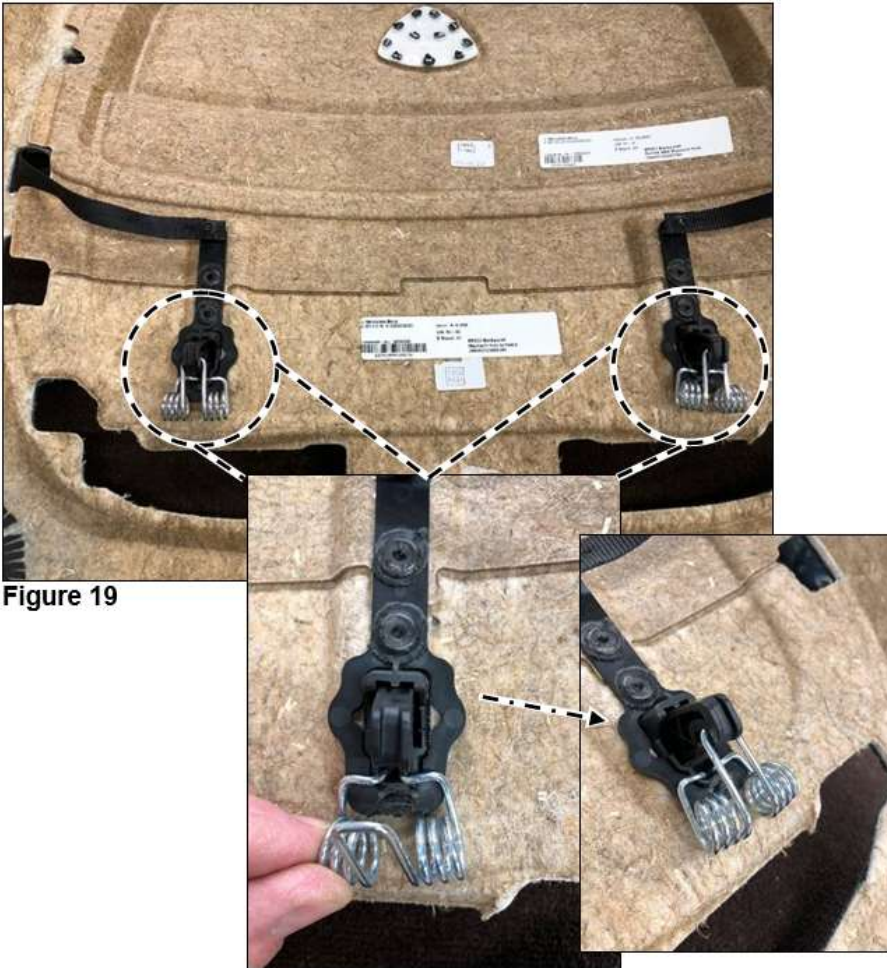

Figure 19
10.3. Remove the spring on the left and right of the guide of the outer seat backrest cover on the mounting strips from the old seat base trim, install on the new seat base trim and attach the guide of the outer seat backrest cover to the mounting strips (Figure 19).